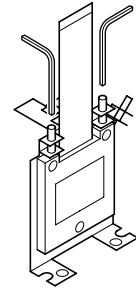

Fig. 3-2-8
9. Adjust the cross hatch pattern up & down (Refer to Fig. 3-2-8) and left & right (Refer to Fig. 3-2-9) with the three adjusting screws (hex screw driver (1.0 mm) available on the market) until it is aligned with the green cross hatch pattern.